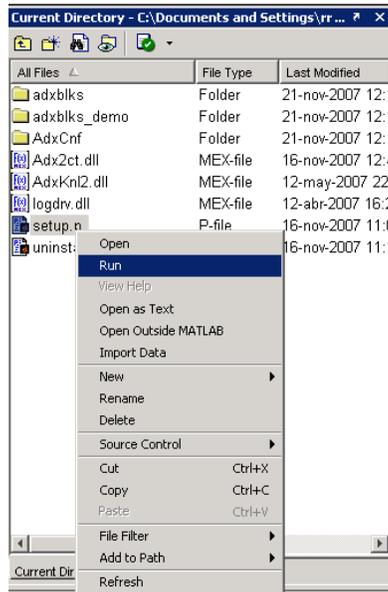

FIGURE 1. EXECUTING THE INSTALLER
3. Execute the archive file *setup* either by clicking on the right hand button over the file within the Current Directory and pressing *Run* as shown in Figure 1 or writing *setup* in the command window of *MATLAB*. After a few seconds, if the installation has proceeded satisfactorily, an information window will appear otherwise an error message will be given.
2. Execute the archive *uninstall* either by clicking on the right hand button over the file within the Current Directory and pressing *Run* as shown in Figure 1 or writing *uninstall* in the command window of *MATLAB*.